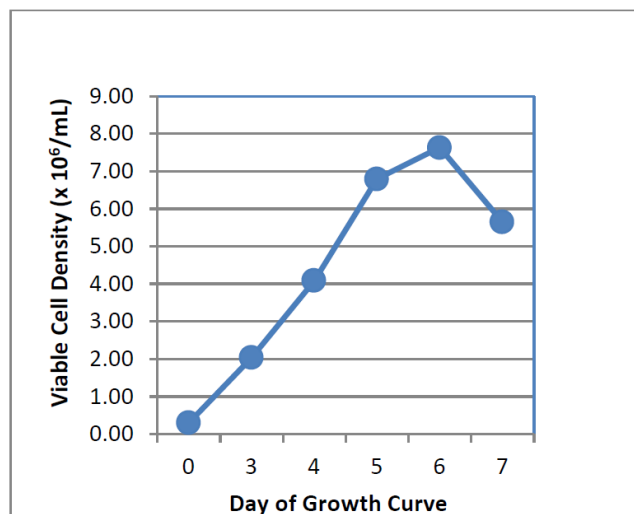

Figure 1 Example growth curve
7. Graph the mean daily viable cell count data as shown in Figure 1, and then determine the day that the peak cell density was achieved.